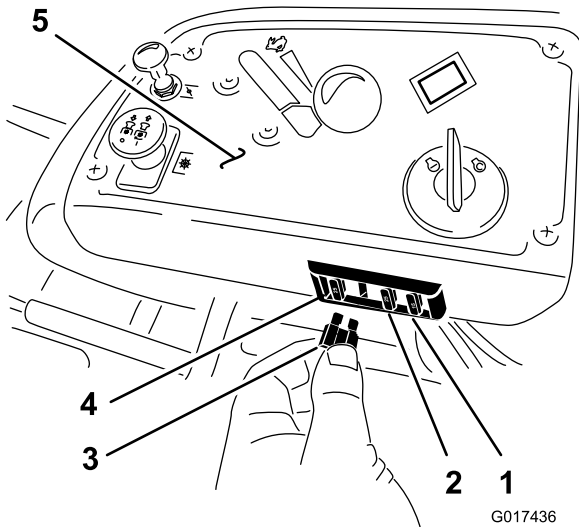

Figure 49
The fuses are located on the right console next to the seat (Figure 49).
2. Install a new fuse (Figure 49).